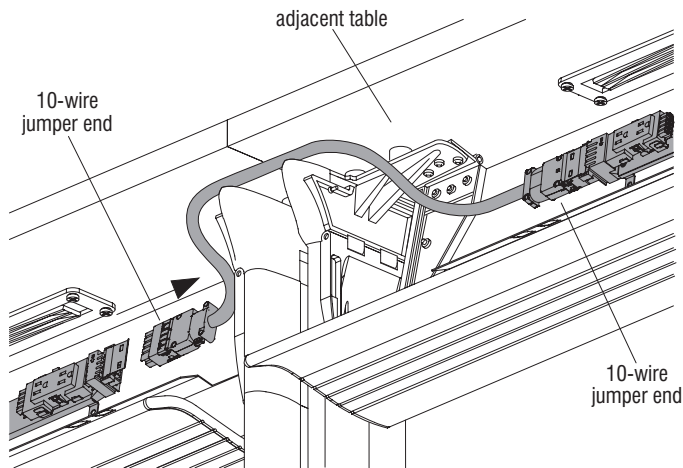

Figure 14
1. Release the steel clip from one end of the jumper, but keep the other end of the jumper connected to the adjacent table (Figure 14).